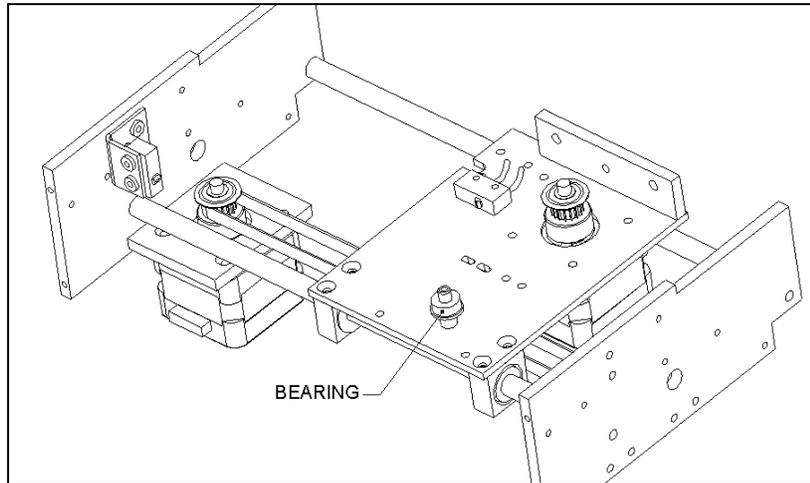

Figure 13-21 Motor Mounting Screws
- 3 Remove the second bearing on the idler shaft (the screw is in the center of the idler axle) (Figure 13-21).
The Z Microswitch is mounted on the Z-drive assembly in the upper left corner (Figure 13-21).